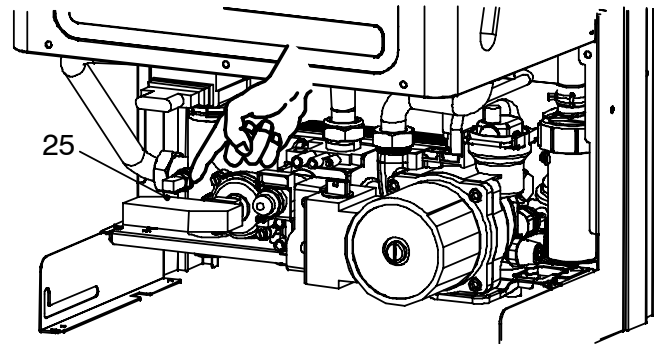

Fig. 8.3
- 9 Disconnect the C.h. temperature probe NTC 25 in Fig. 8.3
- 11 Connect the C.h. temperature probe NTC 25 in Fig. 8.3